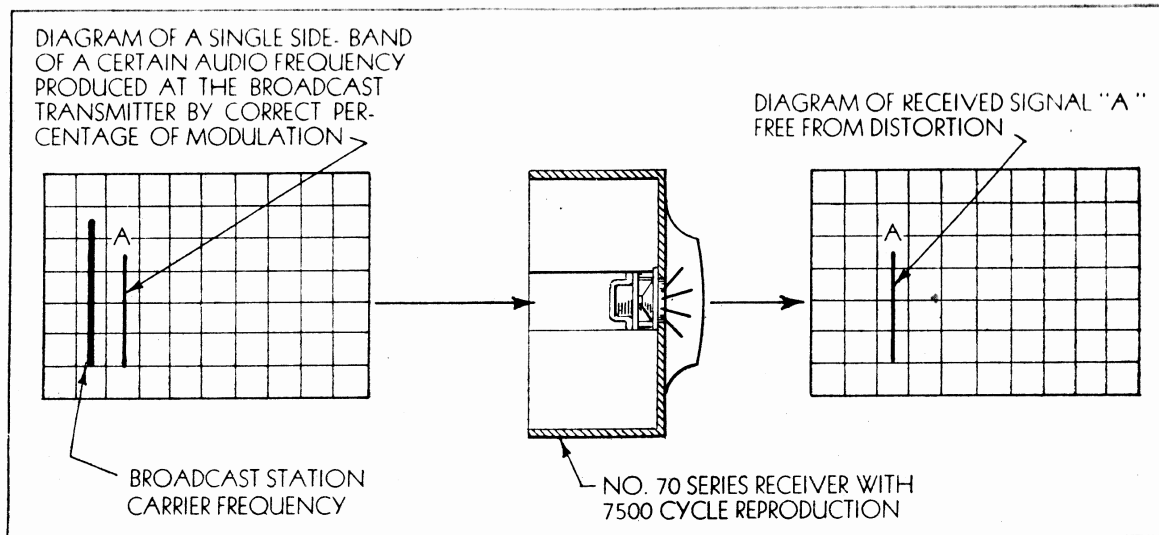
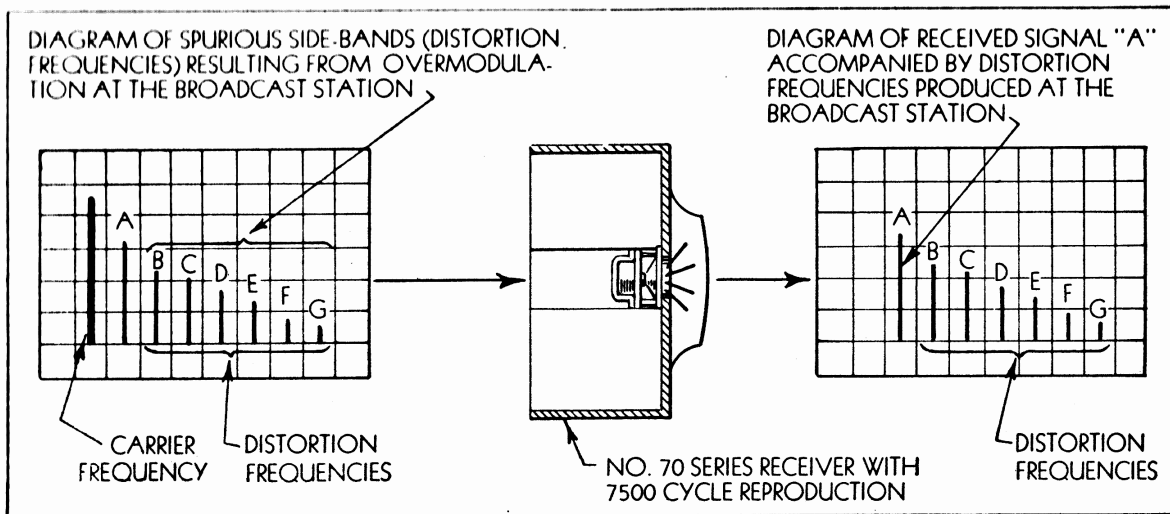

Fig. 43
Fig. 44
- (c) Better Monitoring of Programs by the Control Room Operator to provide maximum dynamic audio range in the transmitted program without over-modulation. A correctly modulated signal is transmitted and received free from distortion as shown in Fig. 43. An over-modulated signal produces spurious side-bands (distortion frequencies) at the broadcast station as shown in Fig. 44.